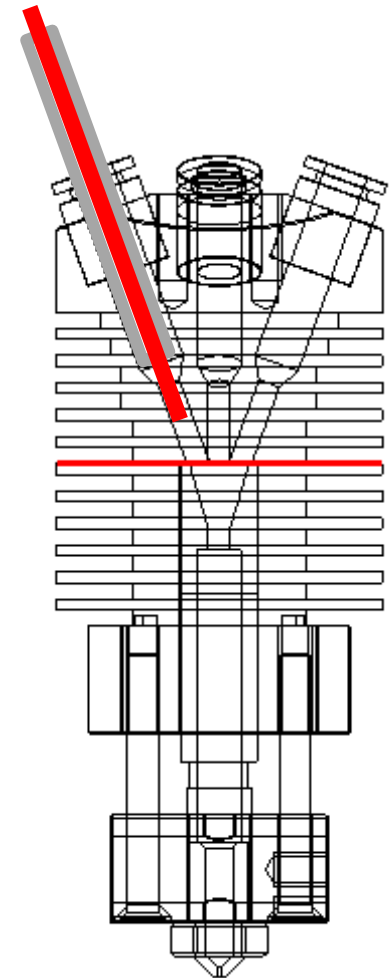

Fig 2
Step 2: load 25mm filament on LCD screen (Fig 2).